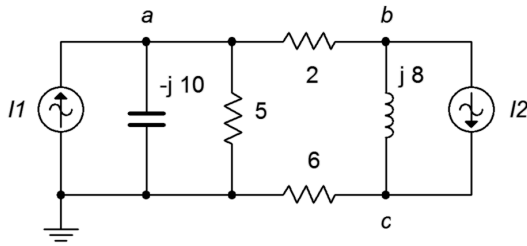

Figure 6.19
37. Given the circuit in Figure 6.19, use nodal analysis to determine v_{ac} . $I1 = 10\angle 0^\circ$, $I2 = 6\angle 0^\circ$.
38. Use nodal analysis to find the current through the $j8\ \Omega$ inductor in the circuit of Figure 6.19.